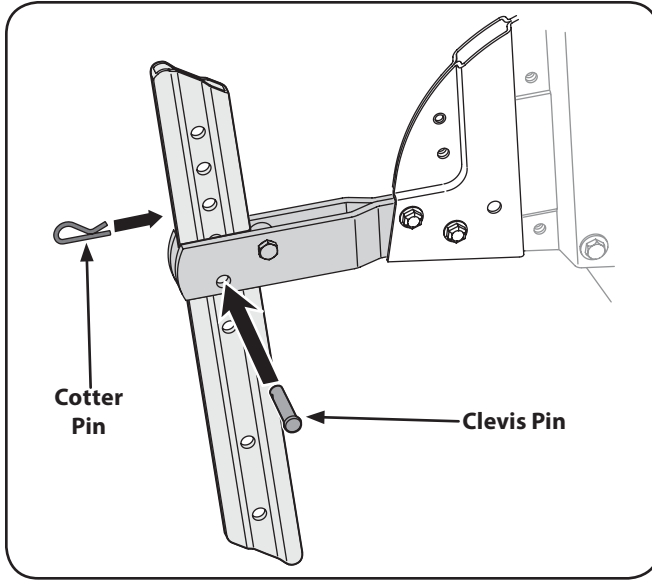

Figure 3-7
4. Insert the depth stake into the depth gauge bracket assembly as seen in Fig. 3-7.